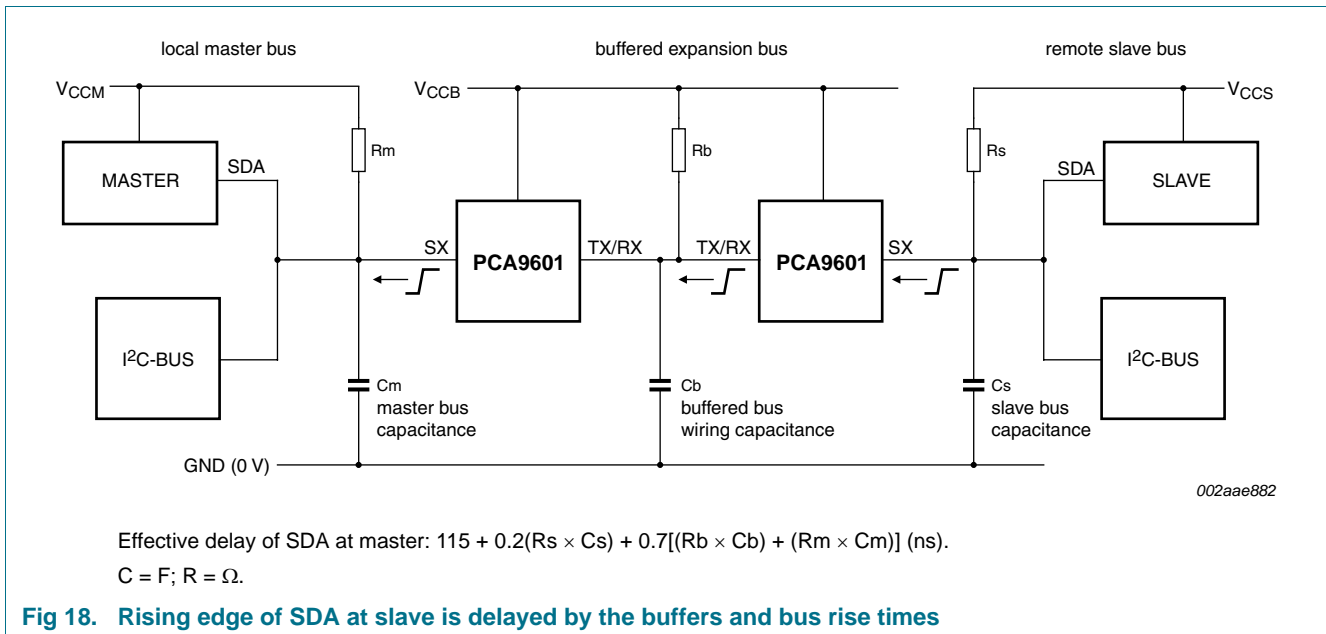

Fig 18. Rising edge of SDA at slave is delayed by the buffers and bus rise times
Figure 16, Figure 17, and Figure 18 show the PCA9601 used to drive extended bus wiring with relatively large capacitances linking two I²C-bus nodes. It includes simplified expressions for making the relevant timing calculations for 3.3 V or 5 V operation. Because the buffers and the wiring introduce timing delays, it may be necessary to decrease the nominal SCL frequency. In most cases the actual bus frequency will be lower than the nominal Master timing due to bit-wise stretching of the clock periods.
- C** — The propagation delay of the slave’s response signal through the buffers and wiring back to the master. The important delay is that of a rising edge in the SDA signal. Rising edges are always slower and are therefore delayed by a longer time than falling edges. (The rising edges are limited by the passive pull-up while falling edges are actively driven); see Figure 18.
from the master reaching the slave (Figure 16) minus the effective delay (stretch) of the SCL rising edge (Figure 17) plus total delays in the slave's response data, carried on SDA, reaching the master (Figure 18).